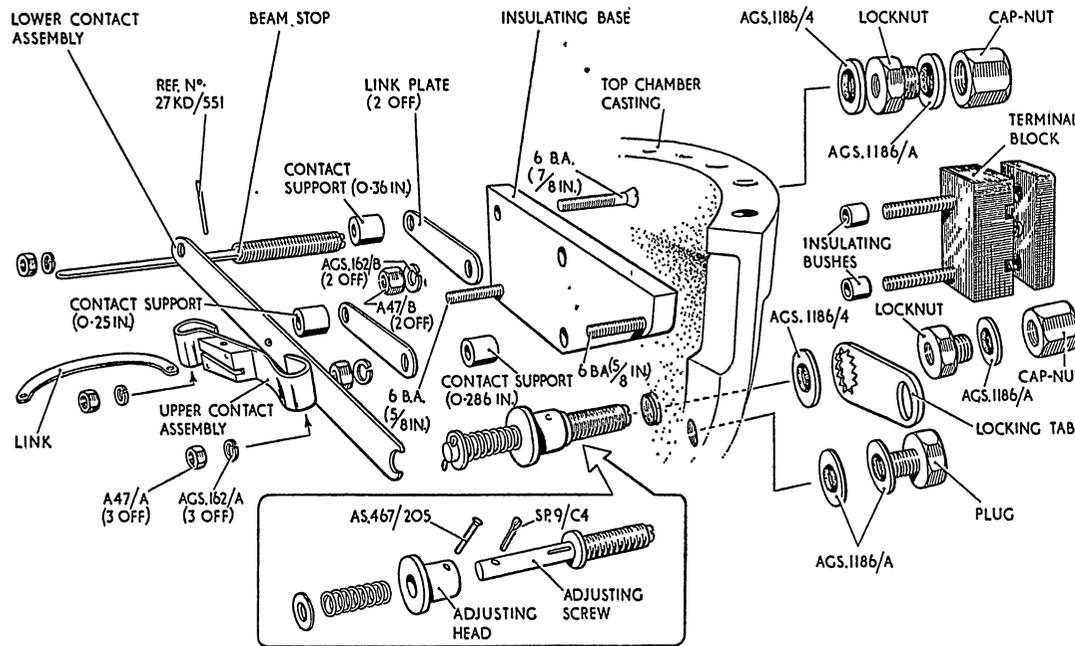

Fig. 9. Switch mechanism
Switch mechanism (fig. 9)
24. (1) Fit the locking tab (fig. 9). The serrated hole in the tab fits over the locknut of the contact adjusting screw, and the blanking plug fits through the plain hole, with one of the two seals on each side of the tab.